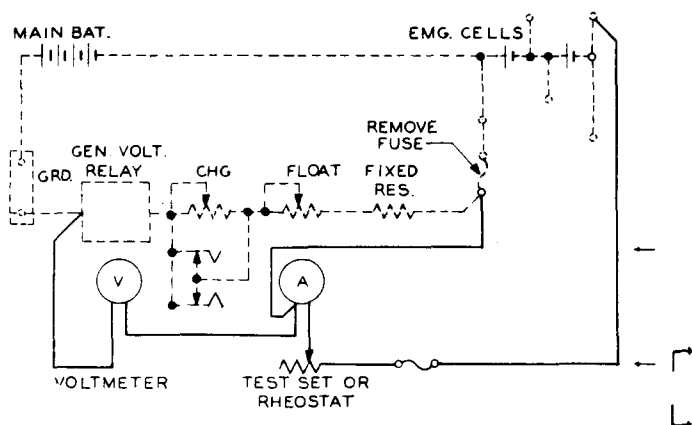
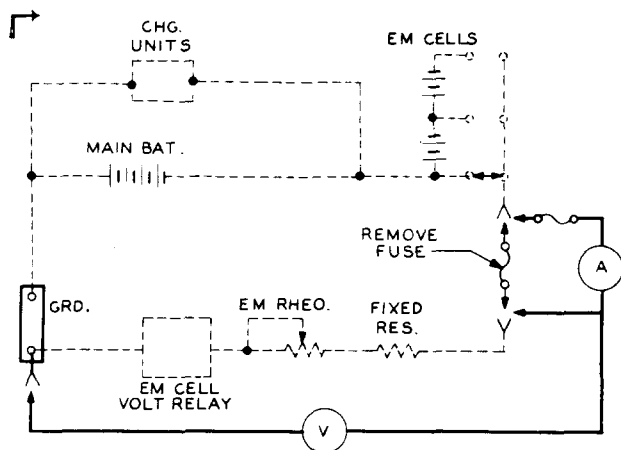

Fig. 2 - Connections for Volt-age Relay Adjustment
Fig. 3 - Connections for Voltage Relay Adjustment With Regulated Charging Units
(1) Unregulated Chargers (See Fig. 2): With the coil hot, adjust the test set or rheostat to obtain nominal voltage and then adjust the float rheostat to give 0.5 amperes on ammeter or test set. Change of the float rheostat changes the voltmeter reading requiring alternate adjustment of the two rheostats to give correct current at nominal voltage.
(2) Regulated Chargers, Such as in the 302A Plant (See Fig. 3): Regulated charging units may be adjusted to maintain nominal voltage while EM rheostat is adjusted to correct current as specified in requirement 2.07(a).
(1) The holding effect of the contact arm in either position may be determined by noting the difference in voltage between the closing and opening values of the associated contacts. The connections for ascertaining this voltage are similar to those shown in Fig. 2 or 3. With Fig. 3, the voltage adjustments on the charging units may be used to vary the voltage. The closing or opening of the contact may be ascertained by noting the operation of the associated relays or, in the case of opening of the contact, a small quick movement of the contact arm may be noted as the contact arm moves away from the holding coil face. In making this test it will be necessary to strap out the associated voltage regulator interrupter or provide other means to insure that a stable battery potential is supplied to the contact arm for the duration of the test.
(2) The holding effect may be adjusted by loosening the associated holding coil adjusting screw locknut and turning the adjusting screw in or out of the holding coil. Turning the screw into the coil increases the holding effect; turning the screw out of the coil decreases the holding effect. Tighten the locking screw after each adjustment.
5. To revise Fig. 2 and add Fig. 3.